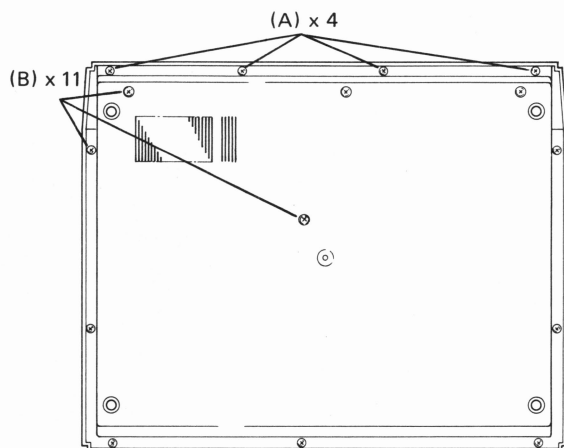

Fig. 5-2-2
- Two types of screw are used to secure the bottom cover. When re-installing the bottom cover, be sure to install the same screws in the same place. Fig. 5-2-2.